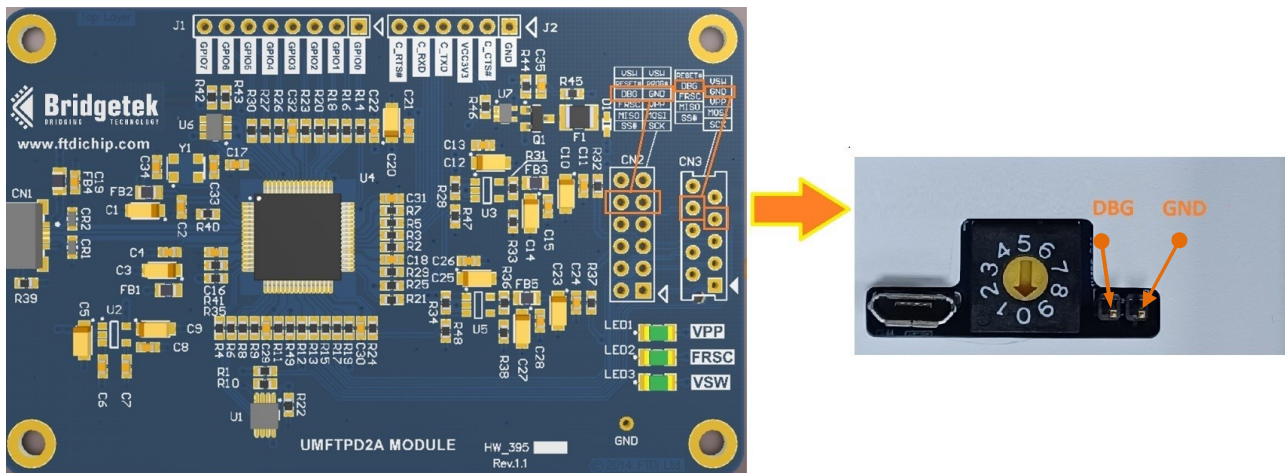

Figure 30 - One-Wire Debug Mode Hardware Connection
- Attach it to an Arlington LV2* bracket with the provided self-tapping screws (3.5mm x 16mm, minimum length 12mm), refer to Figure 30.
To establish the hardware connection, simply connect the **DBG** (CN2/CN3-8) and **GND** (CN2/CN3-7) pins from UMFTPD2A to the **One-Wire Debug** header pins of IDP903-50A display module, as shown in Figure 30.